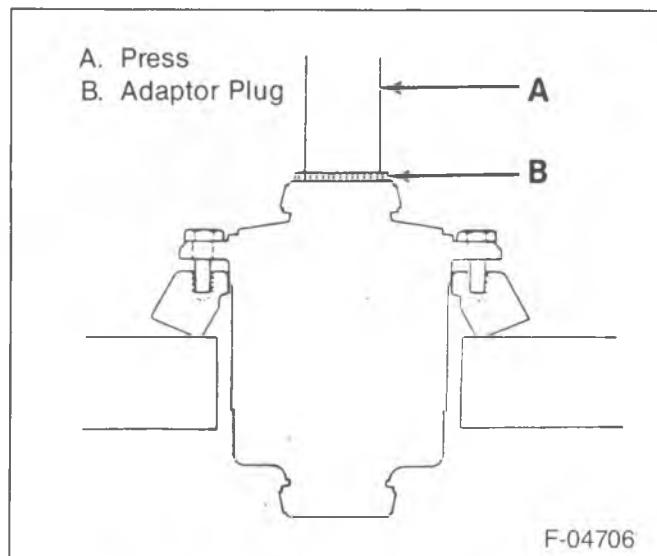
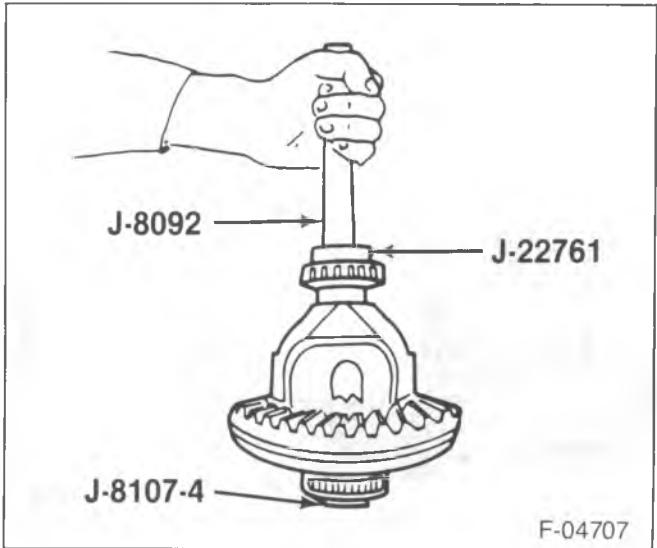

Figure 18—Installing the Ring Gear
Figure 19—Differential Bearing Installation
- Press the ring gear onto the case far enough to start the bolts using J 8107-4 to protect the differential from the press ram (figure 18).
- 7. New ring gear bolts (23).
- 8. Differential side bearings (8) using J 22761, J 8107-4 and J 8092 (figure 19).
- 9. Differential case (24) to the axle housing. Refer to "Side Bearing Preload Adjustment" in this section.